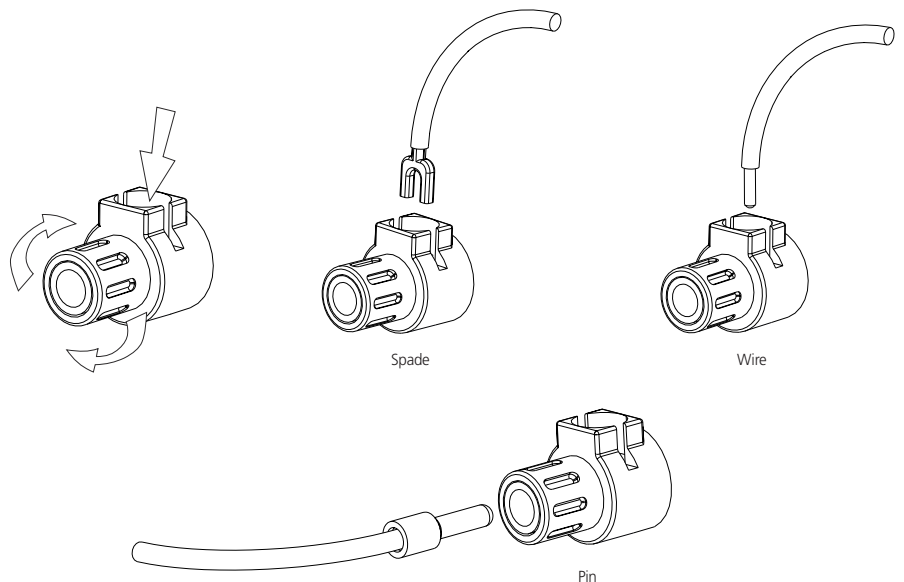

Figure 2
Connect the wires from one of your speakers to the "+" and "-" terminals on the rear panel of the NAD CI-series amplifier. In each channel, the red terminal is the positive "+" output, and the black terminal is the negative "-" or "ground" terminal (see Figure 2).
- 1 Pin connectors:** A pin connector is a slim metal shaft that is crimped or soldered onto the end of a wire. The threaded shaft of each binding post contains an opening that accepts pin connectors up to 3mm in diameter. Unscrew the plastic bushing on each terminal to expose the hole in the metal shaft. Insert the pin connector through the hole, and turn the bushing clockwise until it is tight (see Figure 2).
- 2 Spade lugs:** Unscrew the plastic bushing, insert the U-shaped spade lug into the oblong gap and tighten the bushing down on it (see Figure 2).
- 3 Bare wires:** Separate the two conductors of the cord (if they are supplied as a pair), and strip off a half-inch (1cm) of insulation from each. In each conductor, twist together the exposed wire strands. Unscrew the plastic bushings for "+" and "-", insert the bare wire through the hole in the metal shaft, and tighten the plastic bushing until it grasps the wire securely (see Figure 2). Check to be sure that no loose strand of wire is touching the chassis or an adjacent terminal. **Re-tighten the bushing after a week or so to make sure that any play that may have developed is eliminated.**